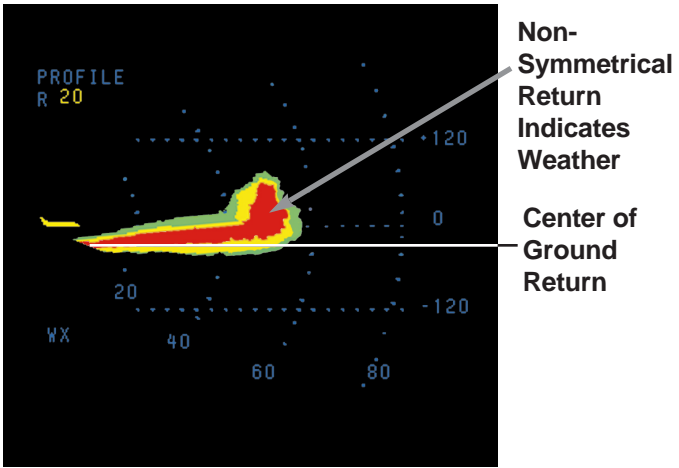

**Figure 7:**
**Figure 7:** 80 nm range selected showing normal ground returns over flat terrain. An isolated low level storm at 50 nautical miles is depicted by the non-symmetrical return. The aircraft is at 20,000 feet MSL.